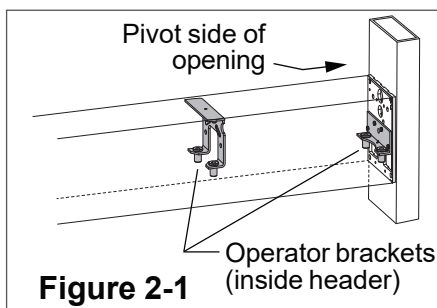
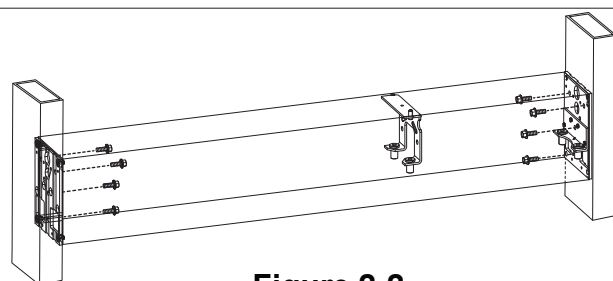

Figure 2-1
Figure 2-2
- ① **Note:** Install concealed application headers so there is 1/8" between the bottom of the header and the top of the door.
- 2b Align the header with the jamb tubes. For headers with a single operator, position the end of the header containing the operator brackets near the pivot side of the opening (Figure 2-1). Secure the header to the jamb tubes with four 1/4-20 hex head screws at each end (Figure 2-2).